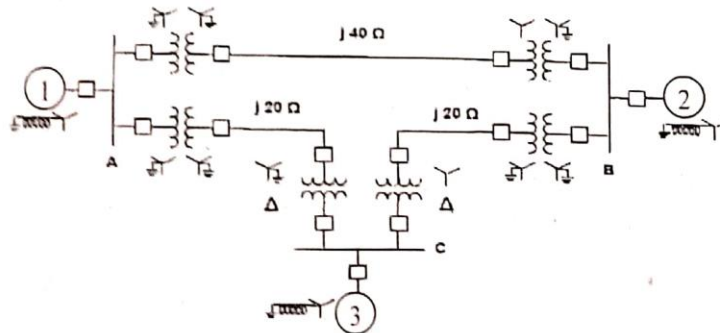

Figure. 2
- (b) Draw the impedance diagram of the power system shown in below Figure. 2.